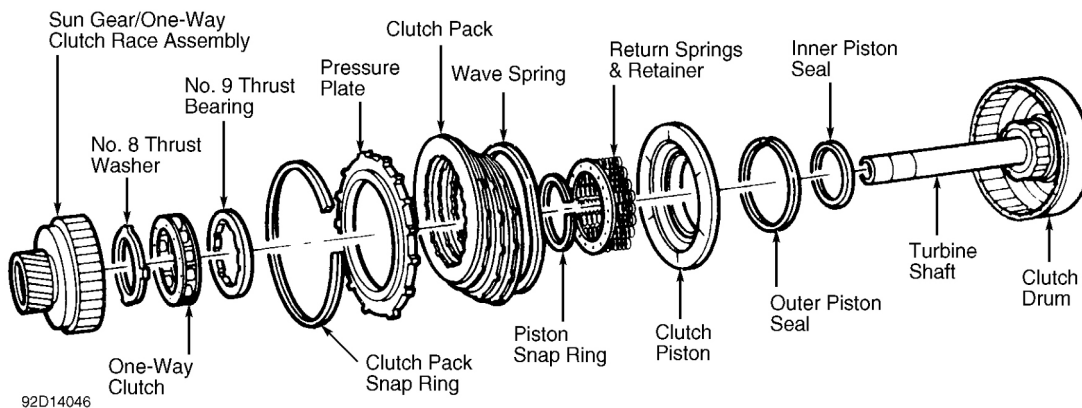
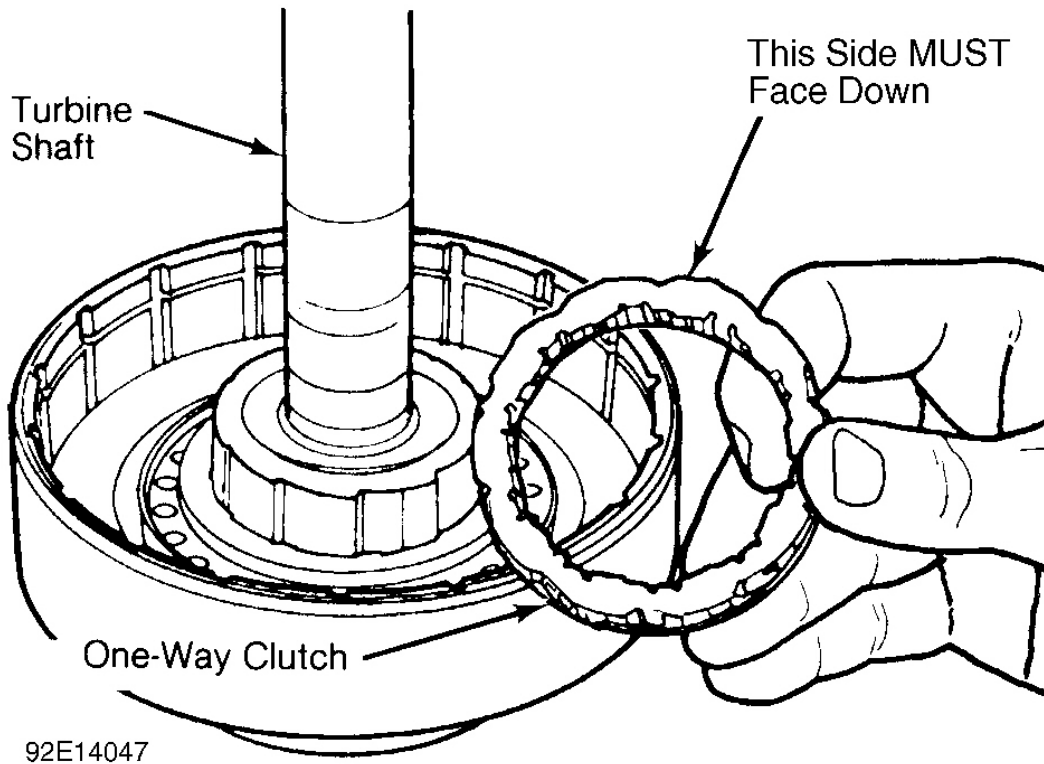

Fig. 6: Exploded View of Direct Clutch Assembly
Fig. 7: Installing One-Way Clutch
1. Remove sun gear/one-way clutch race assembly. Remove No. 8 thrust washer. Remove one-way clutch. See **Fig. 6**.
2. Position return springs, retainer and retaining snap ring in clutch drum. Compress retainer and install snap ring in groove. Install thrust bearing No. 9 on top of return spring retainer. See **Fig. 6**.
4. Install one-way clutch over turbine shaft. Ensure one-way clutch is positioned correctly. See **Fig. 7**. Install No. 8 thrust washer into drum. See **Fig. 6**. Ensure that tabs of washer are facing down against shoulder of one-way clutch inner race. Install clutch pack retaining snap ring.